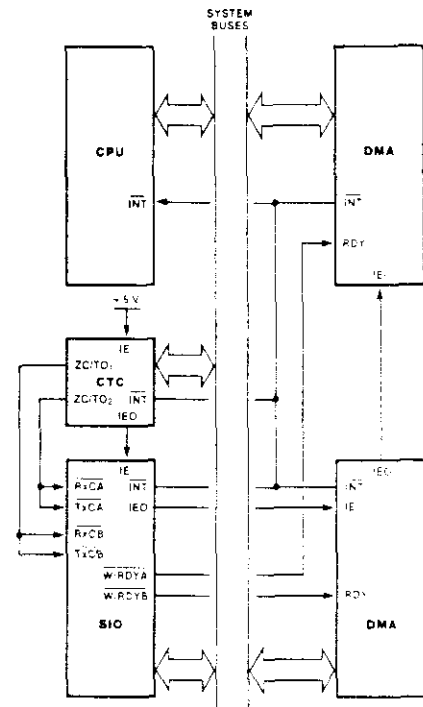

Figure 11. Typical Z-80 Environment
In a Z-80 CPU environment (Figure 11), SIO interrupt vectoring is "automatic": the SIO passes its internally-modifiable 8-bit interrupt vector to the CPU, which adds an additional 8 bits from its interrupt-vector (I) register to form the memory address of the interrupt-routine table. This table contains the address of the beginning of the interrupt routine itself. The process entails an indirect transfer of CPU control to the interrupt routine, so that the next instruction executed after an interrupt acknowledge by the CPU is the first instruction of the interrupt routine itself.